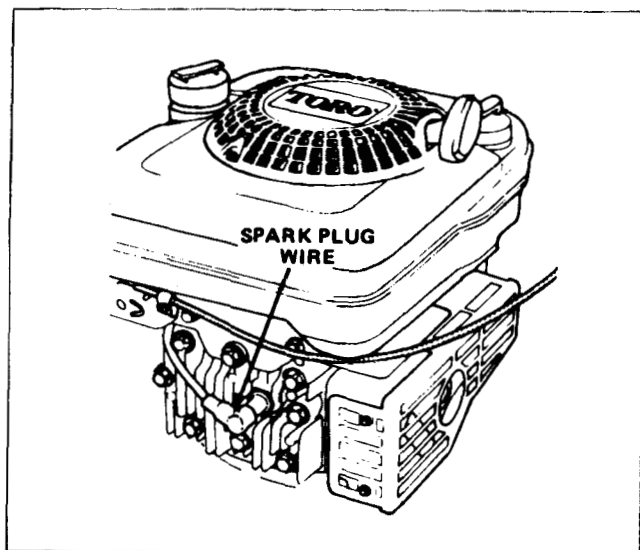

Figure 6
1. Stop the engine and pull wire off spark plug. See Figure 6.
1. Stop the engine and pull the wire off the spark plug. See Figure 6.
1. Stop the engine and pull the wire off the spark plug as shown in Figure 6.